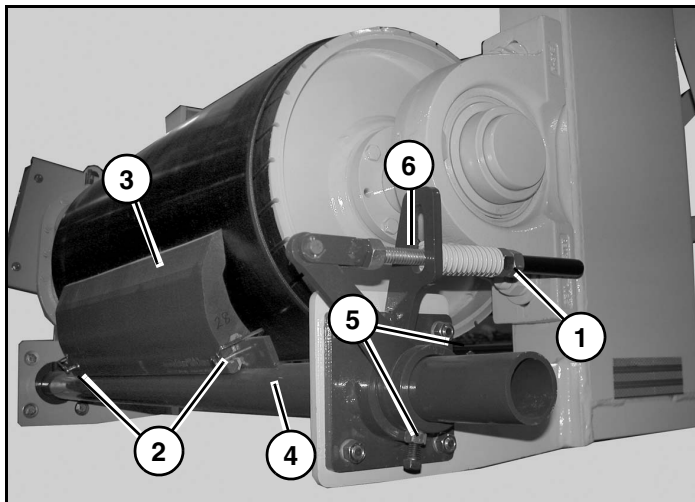

Figure 6
- Reapply tension to the blade by adjusting the nut (Item 1) (**Figure 6**) on the tension spring according to the chart above.
1. Release tension on the blade by loosening the nut (Item 1) (**Figure 6**) on the tension spring.
2. Remove the lock pins (Item 2), and blade (Item 3) from the blade shaft (Item 4) (**Figure 6**).
4. Rest the blade against the belt and tighten the set screws (Item 5) (**Figure 6**) on the tensioner. There should be approximately 2"- 3" of adjustment on the tension rod (Item 6) (**Figure 6**) before the set screws are tight to allow for proper tensioning of the blade.
5. Reapply tension to the blade by adjusting the nut (Item 1) (**Figure 6**) on the tension spring (see Exterra™ Belt Scraper Tension Chart page 2).